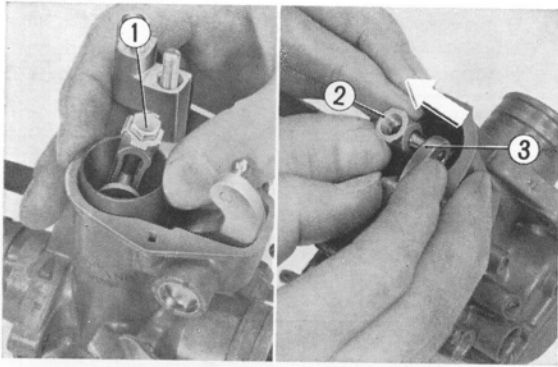

Fig. 187 ① 6 mm bolt ③ Link arm
5. Install the tongued washer with the tongue positioned as shown in Fig. 187, tighten the 6 mm bolt, and then bend up the washer tongue against the bolt head.